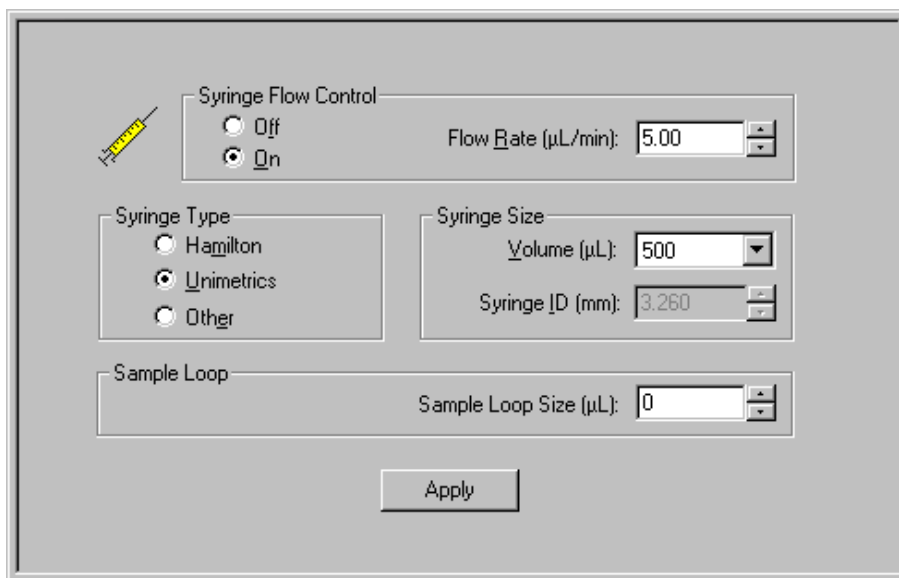

Figure 3-26. Syringe Pump and Sample Loop view, showing pump On
- a. Select **Setup > Syringe Pump & Sample Loop** to display the Syringe Pump and Sample Loop view in the top right corner of the workspace. See Figure 3-26.